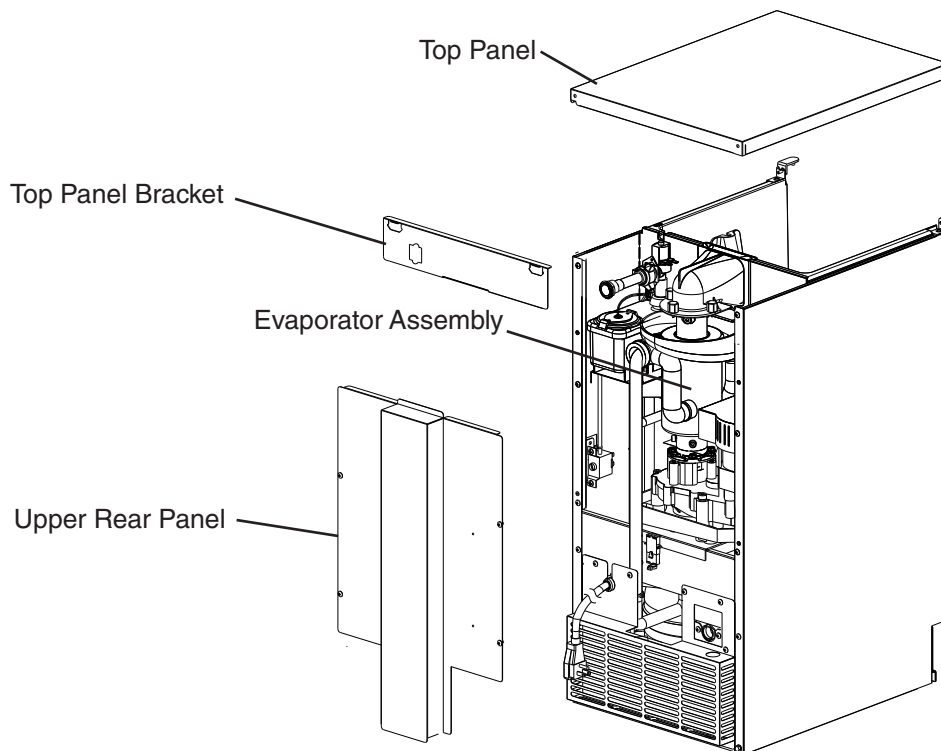

Fig. 4
- 3) Remove the top panel. See Fig. 4.
- 6) Remove the top panel. See Fig. 4.
- 6) Remove the top panel and rear panels. See Fig. 4.